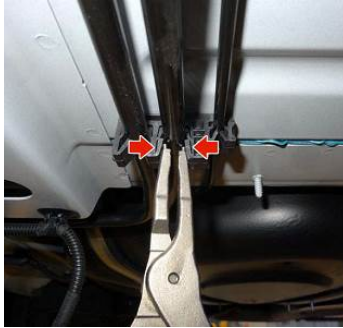

Fig.29
24. With snap ring pliers, loosen the clamps and remove the remaining sections of the fuel delivery line. (Fig.29)